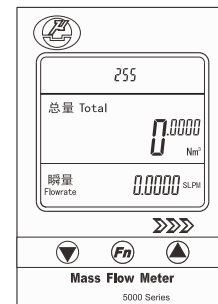
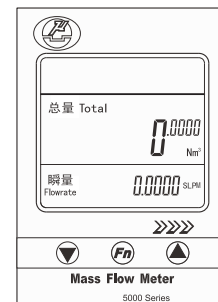

Figure 6-9 Multi-device communication mode
Figure 6-10 Single-device communication mode
(4) Communication Modes switches (Figure 6-9, Figure 6-10)
- Set the address of the meter (value of *SET Addr*) as (3).E. such as 255;
- Set the meter to *Multi-device communication mode* (select value of *PrOTOCOL* to P1--255 or P2--255) as (3).D;
- Set the meter to *Single-device communication mode* (select value of *PrOTOCOL* to P0--000) as (3).D;